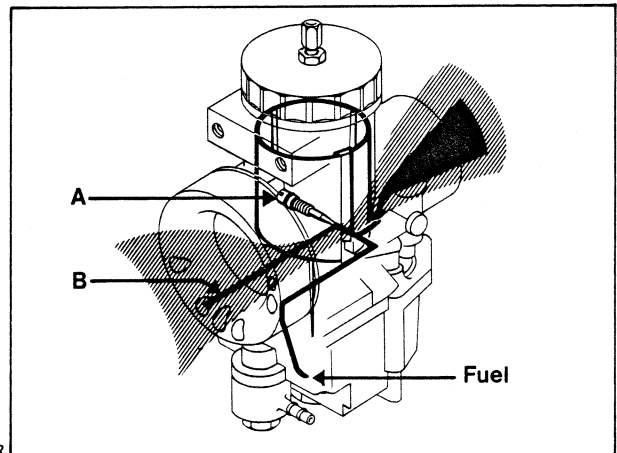

Fig. 3.3
The vacuum in the engine crankcase sucks air through the carburettor. Partly past the throttle which is adjusted by means of the large screw. Partly through the throat (B) past the adjustment screw (A); this air breaks up the fuel in the mixing section of the idling jet to facilitate carburation. See fig. 3.3.